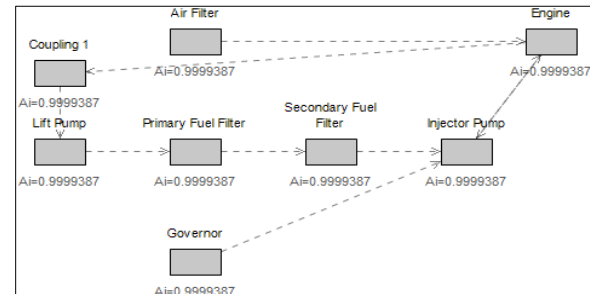

Figure B19: MADE Availability Block Diagram (ABD)
- 4) Define/Refine the *Availability Block Diagrams* (ABDs) attached to each element. The blocks in each ABD are automatically generated along with the system hierarchy and should be organized per the system layout (Figure B19) or the modeler's preference with appropriate parallel, series, and/or standby groupings to accurately represent the system.
- 2) Add item life limits (estimated life budget) the parent subsystem or system has for the limited life item by selecting that subsystem or system and opening the *Technical Budget* tab (See Figure B19).